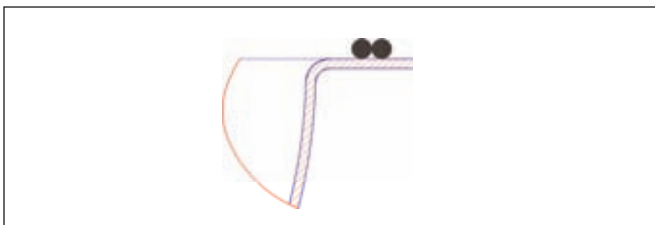

FIGURE 7-5
7.2.10. Do not leave gaps between multiple beads as this could result in air pockets. (See FIGURE 7-5.)